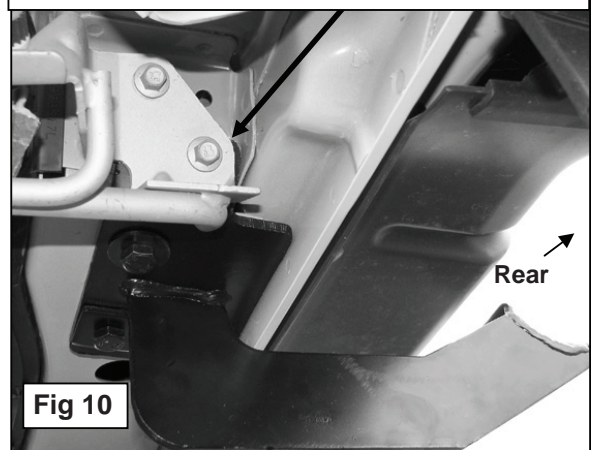

Fig 10
NOTE: On 2009-010 Escape and Tribute models, the passenger side rear Mounting Bracket installs between the factory exhaust support and the body panel. Remove the (2) hex bolts securing the bracket, move the exhaust support slightly and install the passenger side Mounting Bracket as per Step 9, **(see Figure 10)**. Reinstall the exhaust support using the (2) factory hex bolts with (1) inserted through the exhaust support and the Mounting Bracket.